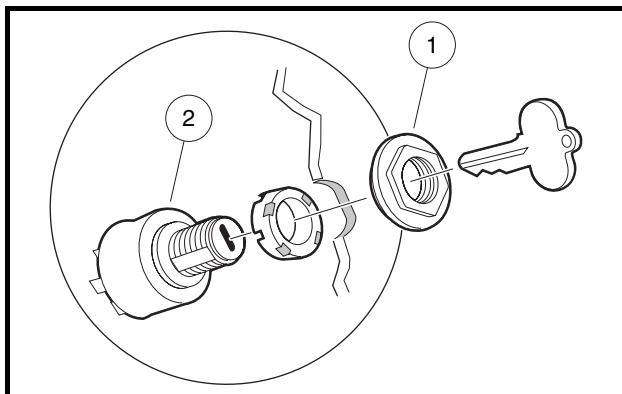

Figure 12-17 Key Switch Removal
- 4.1. Remove the key switch nut (1) (Figure 12-17, Page 12-14).